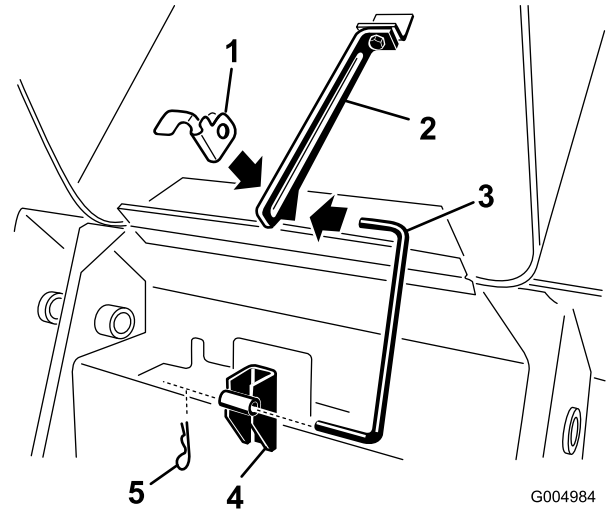

Figure 44
3. Pull the hairpin cotter from the bottom end of the hood prop-rod and slide the prop rod out of the retaining brackets and the prop-rod tab (Figure 44).
7. Install the prop-rod into the retaining brackets and prop-rod tab and secure it with the hairpin cotter (Figure 44).